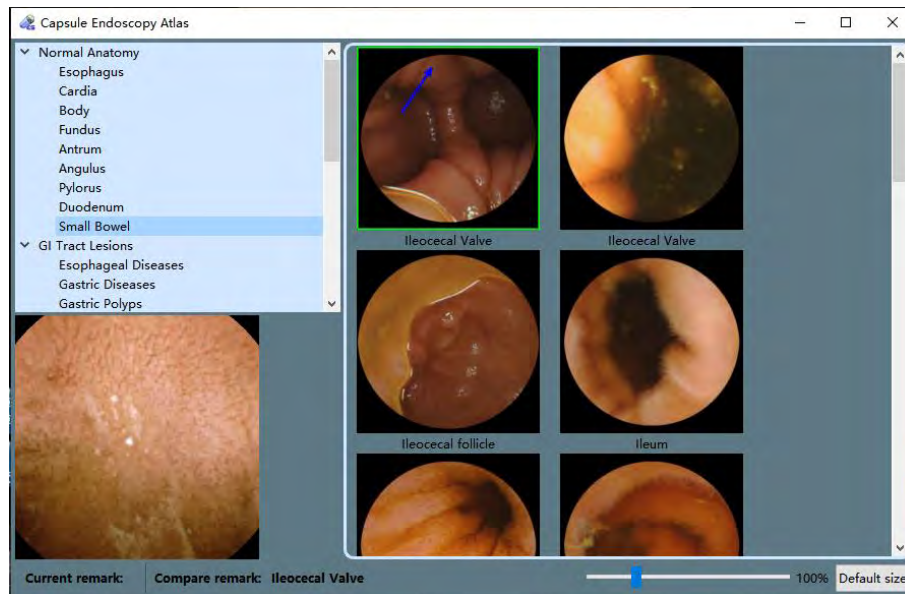

Figure 4-64: Capsule Endoscopy Atlas Interface
1. In the main software interface with an opened video, double click one image in the thumbnail area and select “Tool”☐ “Capsule endoscopy atlas” to access the capsule endoscope atlas interface (Figure 4-64).